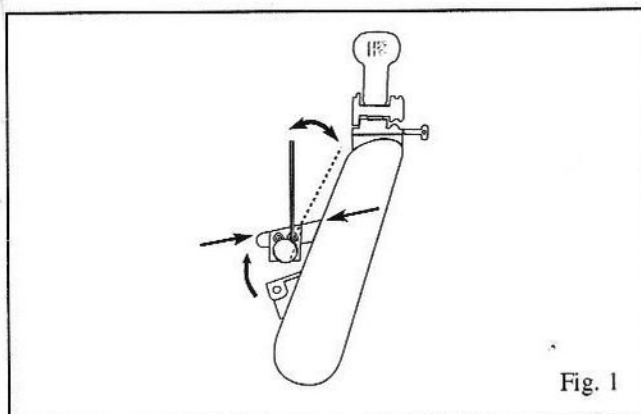

Fig. 1
1. Unplug machine. Lift up the shoulder gauge and affix the Easy Flip to the shoulder gauge with the included Allen wrench. Do not overtighten. See Fig. 1.